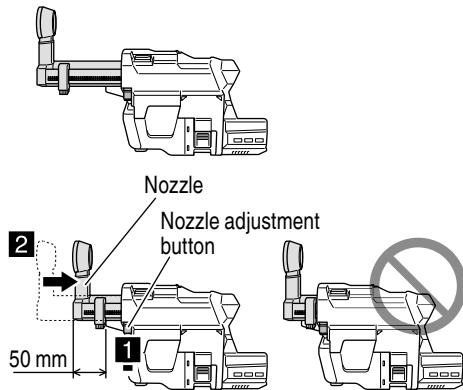

Fig. 20
- When storing the dust extractor system, press the nozzle adjustment button to put the nozzle in the fully extended position. If unable to store with the nozzle fully extended, the nozzle can be shortened to about half its size (Fig. 20). Keeping the nozzle fully contracted inside the dust extractor system may result in its pressing force becoming weaker.